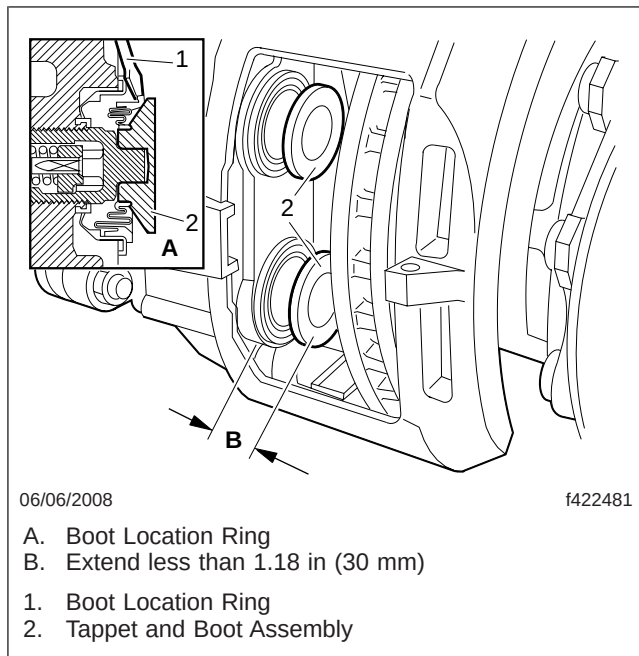

Fig. 3, Tappet and Boot Assembly
7. Using a box-end wrench or socket, fully retract the tappet and boot assemblies by rotating the shear adaptor counterclockwise. See Fig. 3.